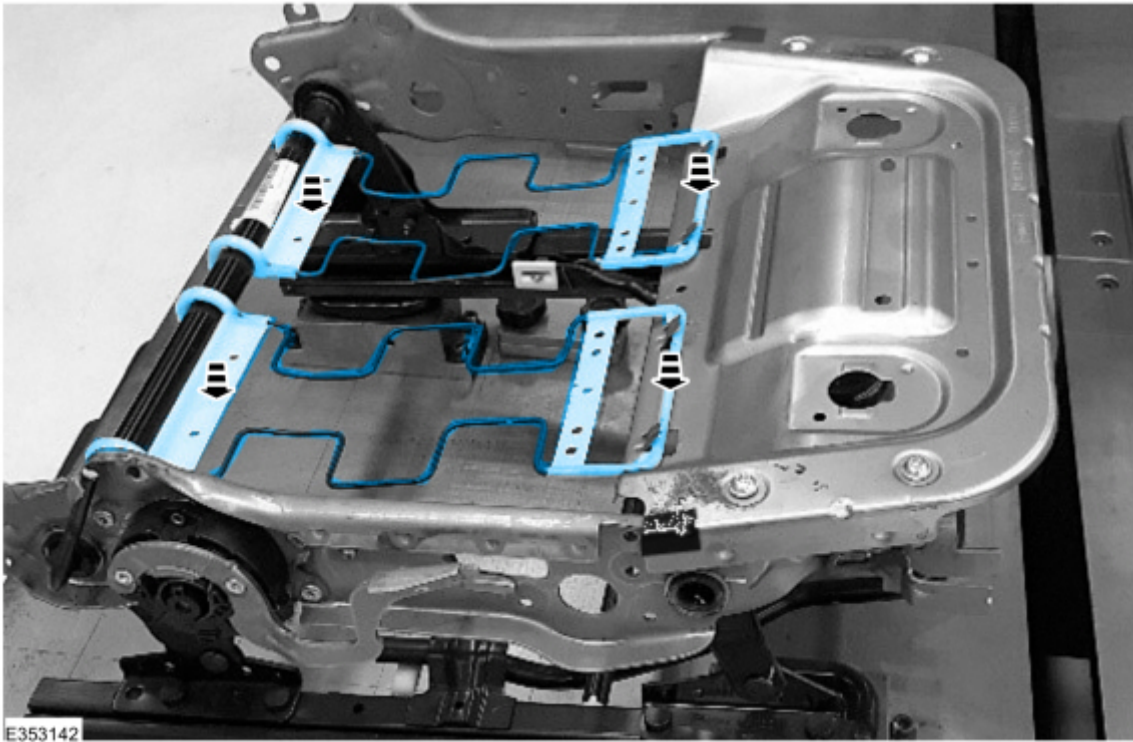

Figure 8
6. Assemble the 2 cushion springs and check to ensure they are positioned correctly. (Figure 8)